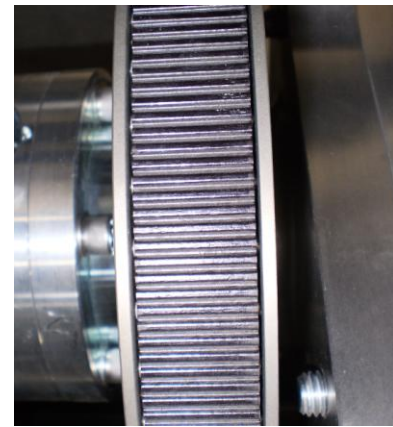

Figure 10
- Rotate rear sprocket several times by hand to register belt on sprocket. The belt should run in the center of the rear sprocket. Make small adjustments if needed and recheck alignment. Figure 10